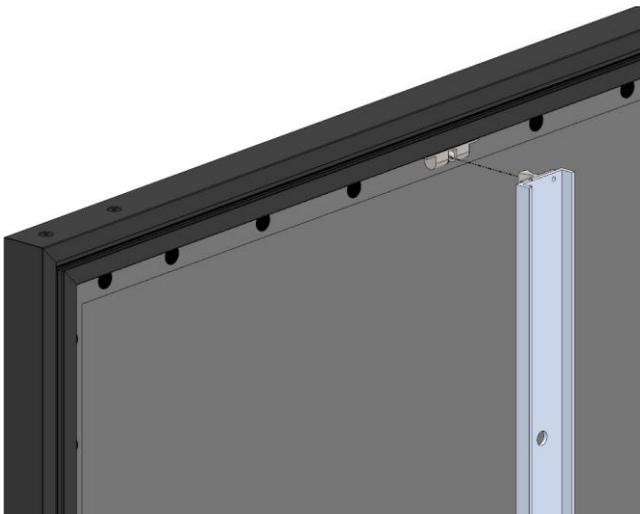

Figure 13: Pocket Mount Inserting into Frame
5. Raise your assembled frame and simply click onto the pocket mounts (see Figure 13).